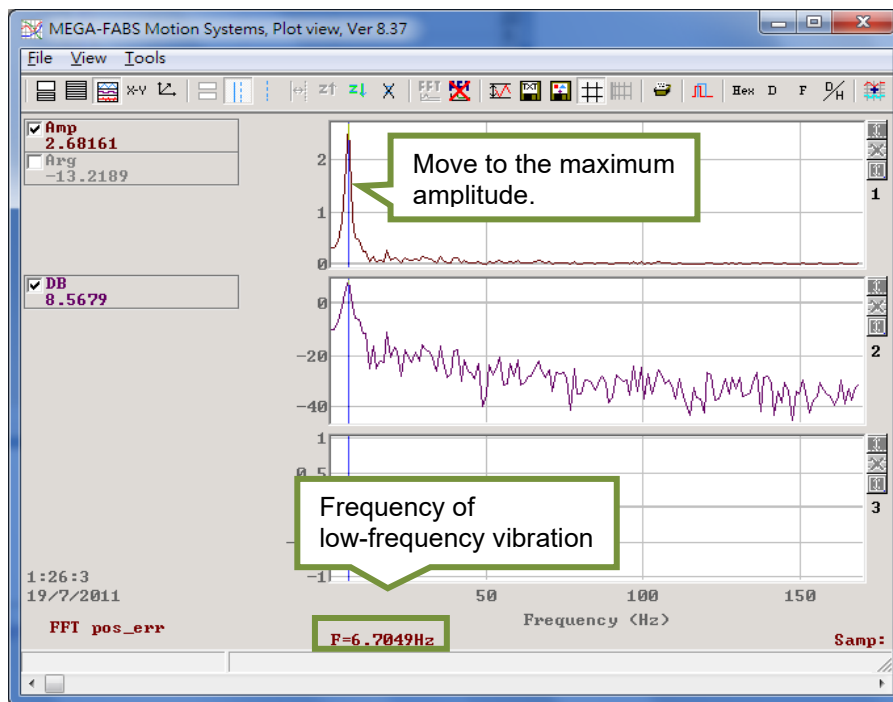

Figure6.6.6.6
Step 9: Check the checkbox of **enable VSF** to enable vibration suppression filter (VSF), as figure 6.6.6.7. Please be noted that do not check or uncheck the checkbox of **enable VSF** while the motor is moving.